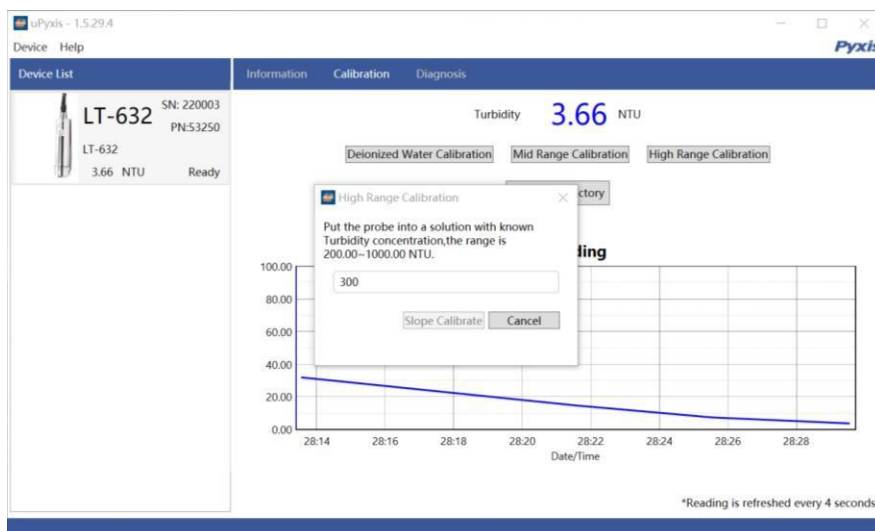

Figure 24 - High-Range Calibration
3. Wait until the reading stabilizes and then click the High Point Calibration button to calibrate the highpoint to the value of the standard utilized, as in Figure 24.